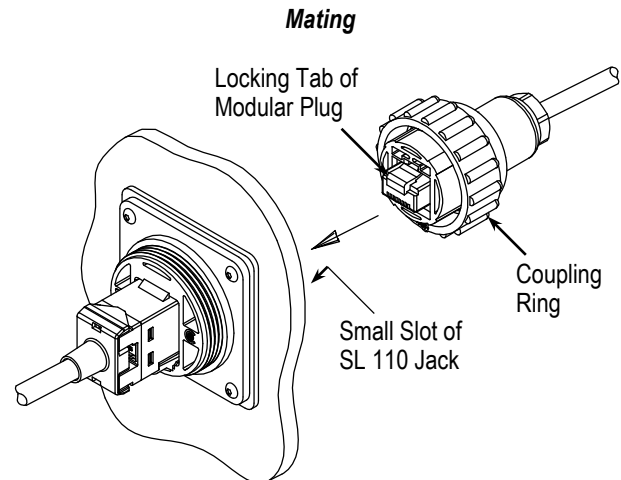

Figure 3
6. Align the locking tab of the modular plug with the small slot of the SL 110 jack (component of receptacle), and slide the keys of the coupling ring into the detents in the threads of the receptacle assembly, then insert the modular plug into the SL 110 jack. See Figure 3.